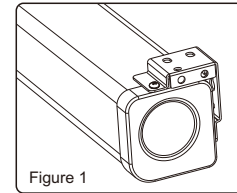

Figure 1
2. There are two way for wall brackets to fix on the housing. As you can see on the Figure 1, which is our normal fixed way (namely factory set). While the other fixed way is to interchange the left and right wall brackets, and then fix onto the housing (namely functional installation way, as Figure 2).
Using a tape measure, measure the distance between the two keyholes on the casing (Figure 1). According to the measurement, use the drill to drill identical holes of the appropriate size on the wall (use a smaller drill bit than the actual screws) and ensure that it is level (Figure 2 & 3). Screw in the appropriate screws, either 5 x 40 by itself for wood walls or with anchors for drywalls, leaving enough space at the end to hang the casing (Figure 4). To ensure that the screen is level, use a level to check (Figure 5).
Using a tape measure find out the distance between the two keyholes on the casing (Figure 1). According to the measurement, use the drill to drill identical holes of the appropriate size on the ceiling and ensure that it is level (Figure 2 & 3). Screw in the hook screws (not provided), and lift the screen into the hook screws to hang (Figure 4). To ensure that the screen is level, use a level to check (Figure 5).
Using a tape measure, measure the distance between the two keyholes on the casing (Figure 1). According to the measurement, use the drill to drill identical holes of the appropriate size on the wall (use a smaller drill bit than the actual screws) and ensure that it is level (Figure 2 & 3). Screw in the appropriate screws, either 5 x 40 by itself for wood walls or with anchors for drywalls , leaving enough space at the end to hang the casing (Figure 4). To ensure that the screen is level, use a level to check (Figure 5).